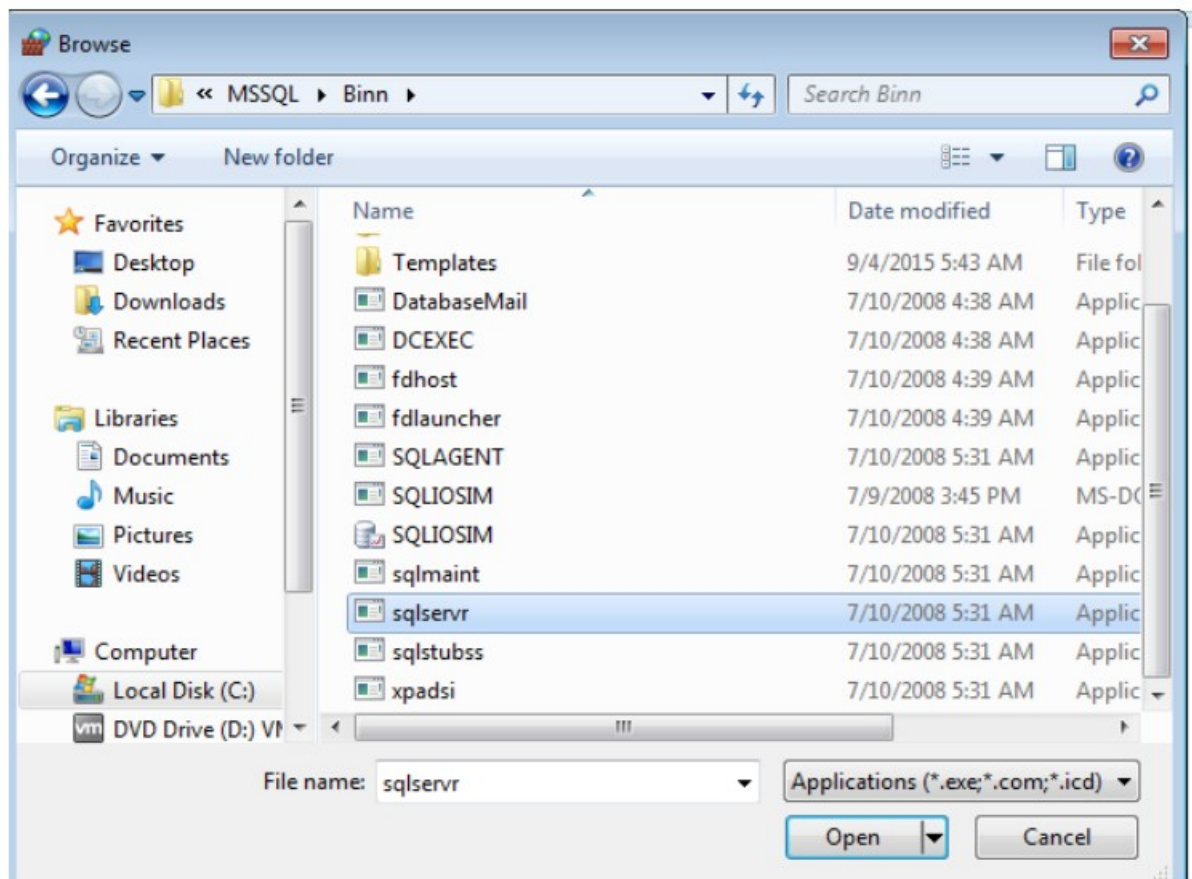

Fig.1.22 Binn
(10) Double-click “sqlservr” (see Fig.1.22).